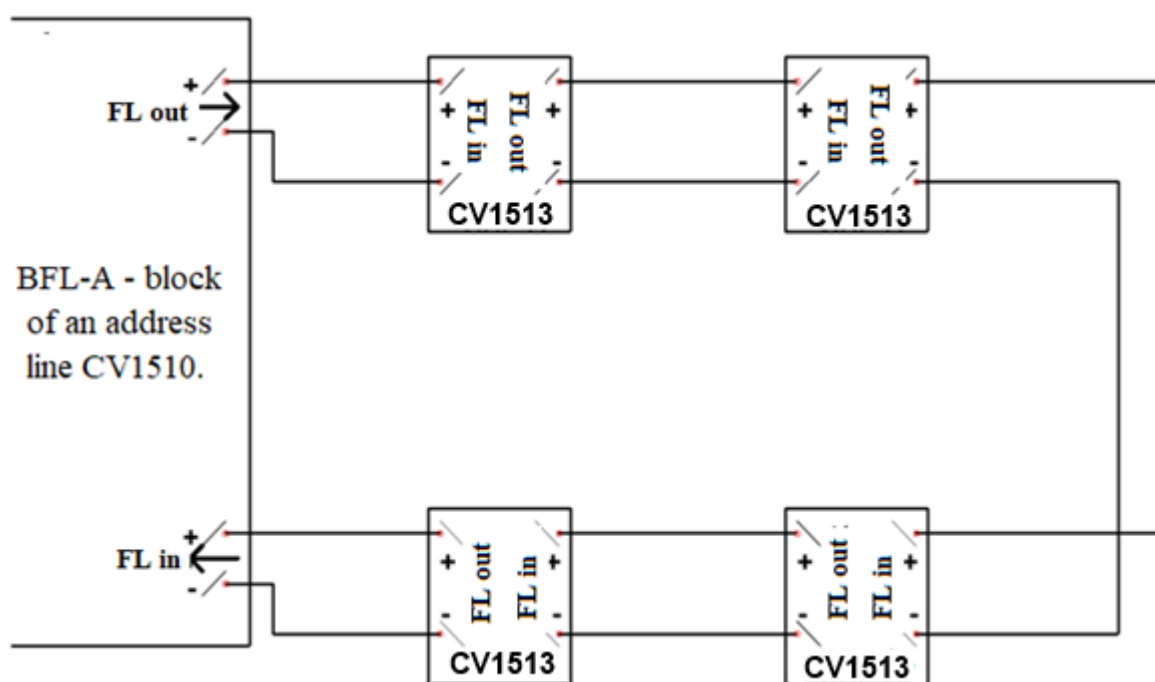

Fig. 3 - Scheme for switching on detectors
1.3.3. The scheme of detectors, inclusion in the ring address loop of the fire alarm of the fire alarm control and address device "Varta-Adres" is shown in Fig. 3.
- connect the alarm loop to the corresponding contacts of the outlet, observing the polarity and direction of the FL in accordance with Fig. 3.